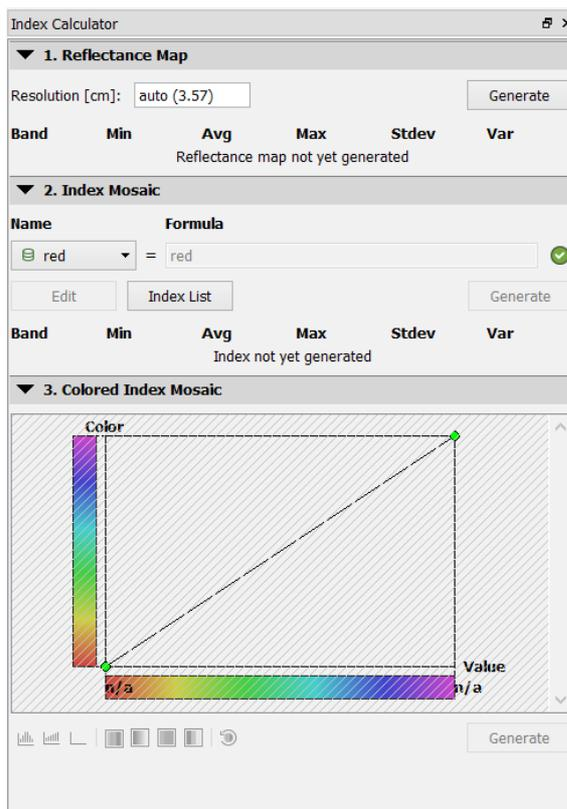
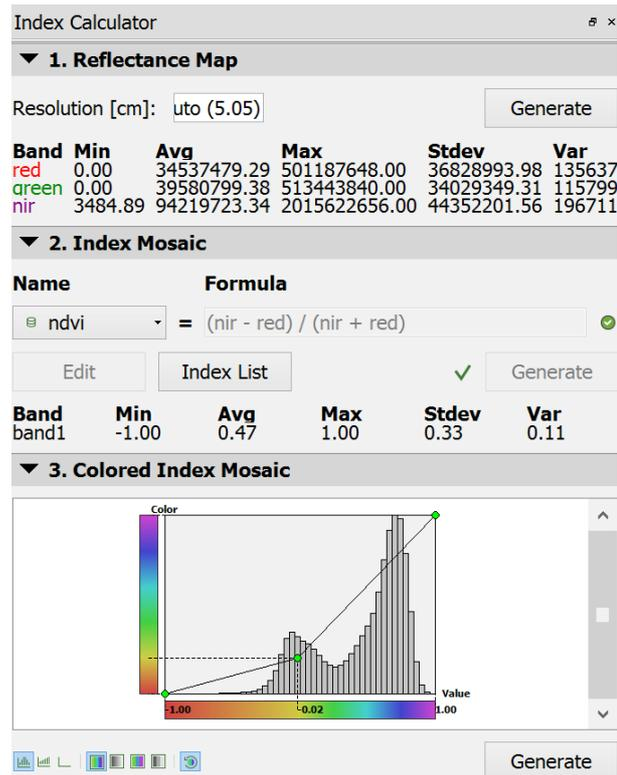
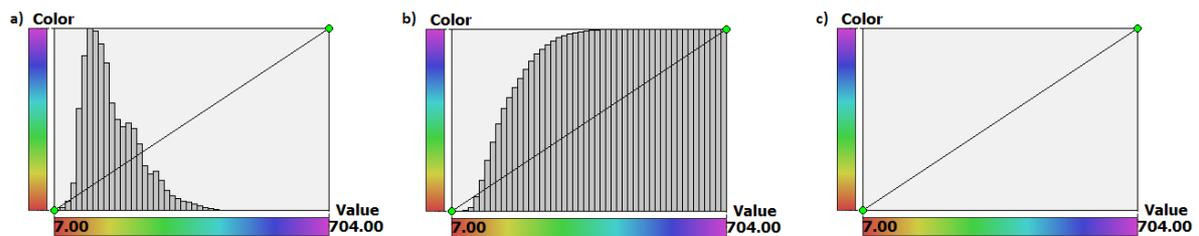

Figure 5: Index calculator sidebar prior to generating the reflectance map
Figure 6: Index calculator sidebar after reflectance map has been generated. Various statistics are available for each band
Figure 8: Color value distribution as a) normal histogram, b) cumulated histogram or c) no histogram
(1) You have to generate a reflectance map (figure 10) with band statistics prior to index calculation (figure 5). You can specify the output resolution of the map, but if you do not change this value, the average GSD of your project will be used. After generating the reflectance map, you will find different statistical values for each separate band available. Those are minimum, average and maximum reflectance as well as standard deviation and variance (figure 6).
(2) In the Index Mosaic section (figures 5 and 6) you have the option to generate new mosaics based on desired calculations. Predefined calculations are the single bands (if you want to display a mosaic in only one band), grayscale and NDVI.
(3) The colored index mosaic section (figures 5 and 6) lets you color the index mosaic created in the previous step (the option becomes available after generating an index). You can display histograms of the color value distribution and switch the display from 'normal histogram' to 'cumulative histogram' or 'no histogram' (figure 8) by clicking the corresponding icon .